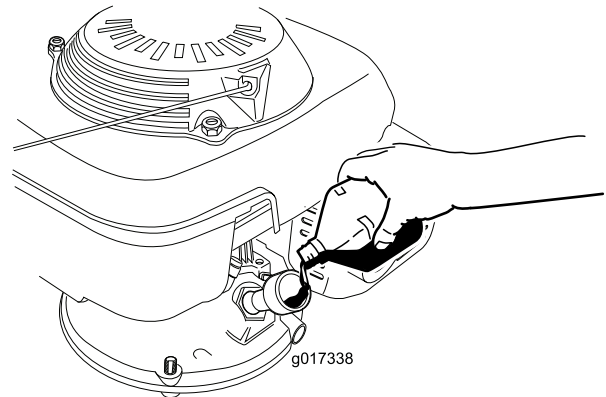

Figure 7
- Slowly** pour oil into the oil fill hole, wait 3 minutes, and check the oil level on the dipstick by wiping the dipstick clean and then inserting, **but not screwing in**, the oil fill cap into the hole (Figure 7).